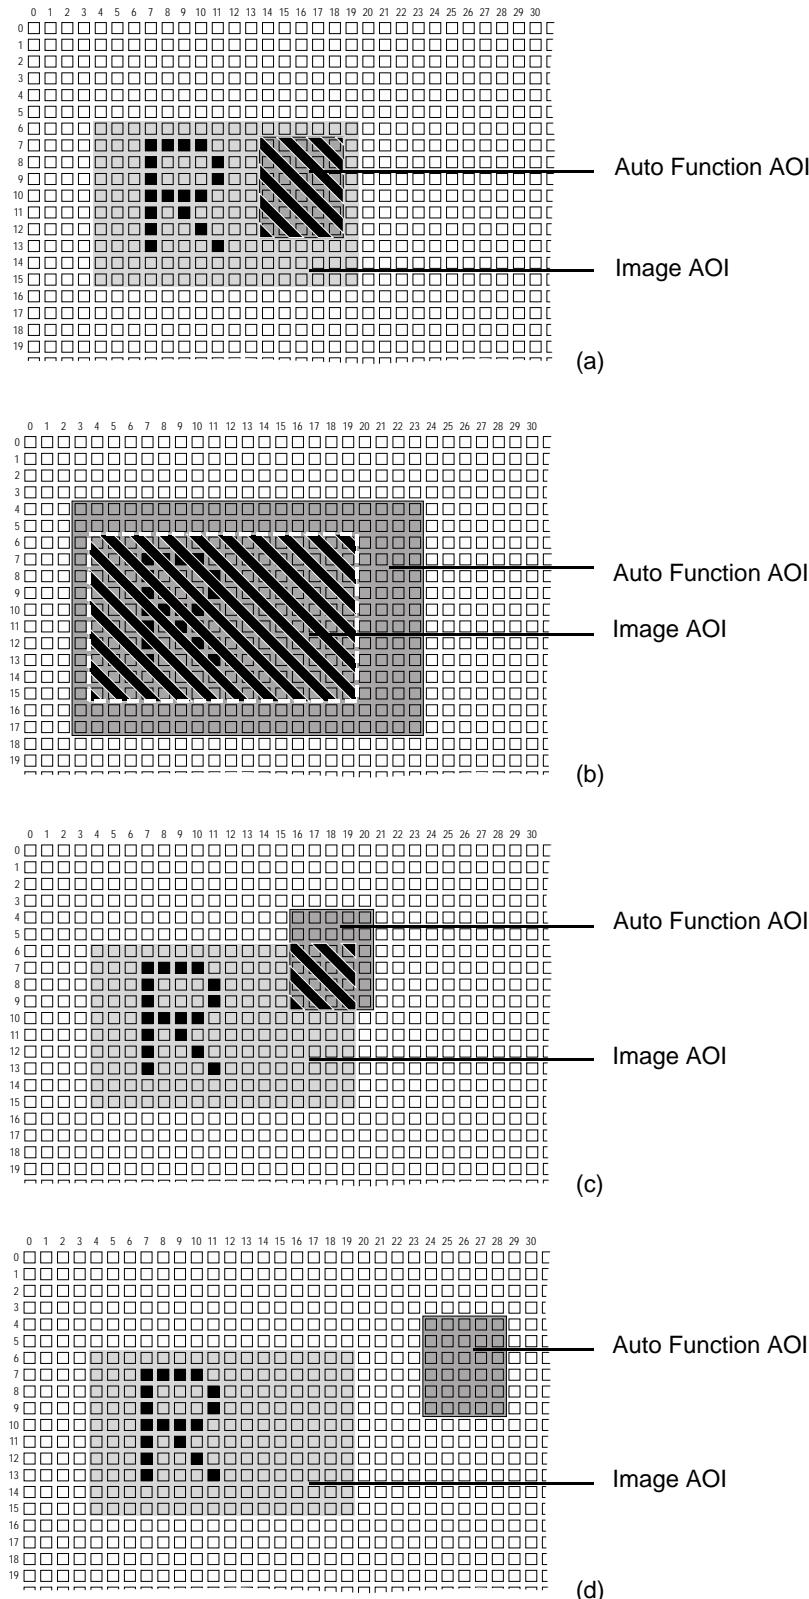

Fig. 120: Various Degrees of Overlap Between the Auto Function AOI and the Image AOI
Different degrees of overlap are illustrated in Figure 120. The hatched areas in the figure indicate areas of overlap.
- If the Auto Function AOI is completely included in the Image AOI (see (a) in Figure 120), the pixel data from the Auto Function AOI will be used to control the image property.
- If the Image AOI is completely included in the Auto Function AOI (see (b) in Figure 120), only the pixel data from the Image AOI will be used to control the image property.
- If the Image AOI only partially overlaps the Auto Function AOI (see (c) in Figure 120), only the pixel data from the area of partial overlap will be used to control the image property.
- If the Auto Function AOI does not overlap the Image AOI (see (d) in Figure 120), the Auto Function will not or only to a limited degree control the image property. For details, see the sections below, describing the individual auto functions.